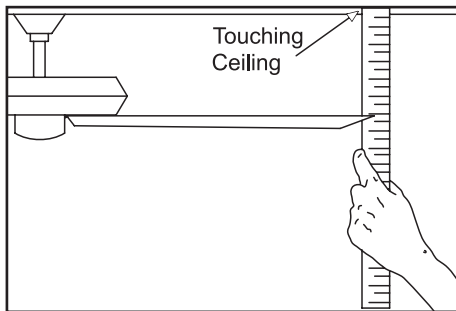

Figure 15
2. Most fan wobble problems are caused when blade levels are unequal. Check this level by selecting a point on the ceiling above the tip of one of the blades. Measure from a point on the center of each blade to the point on the ceiling. Measure this distance as shown in Figure 15. Rotate the fan until the next blade is positioned for measurement. Repeat for each blade. Measurement deviations should be within 1/8". Run the fan for 10 minutes.